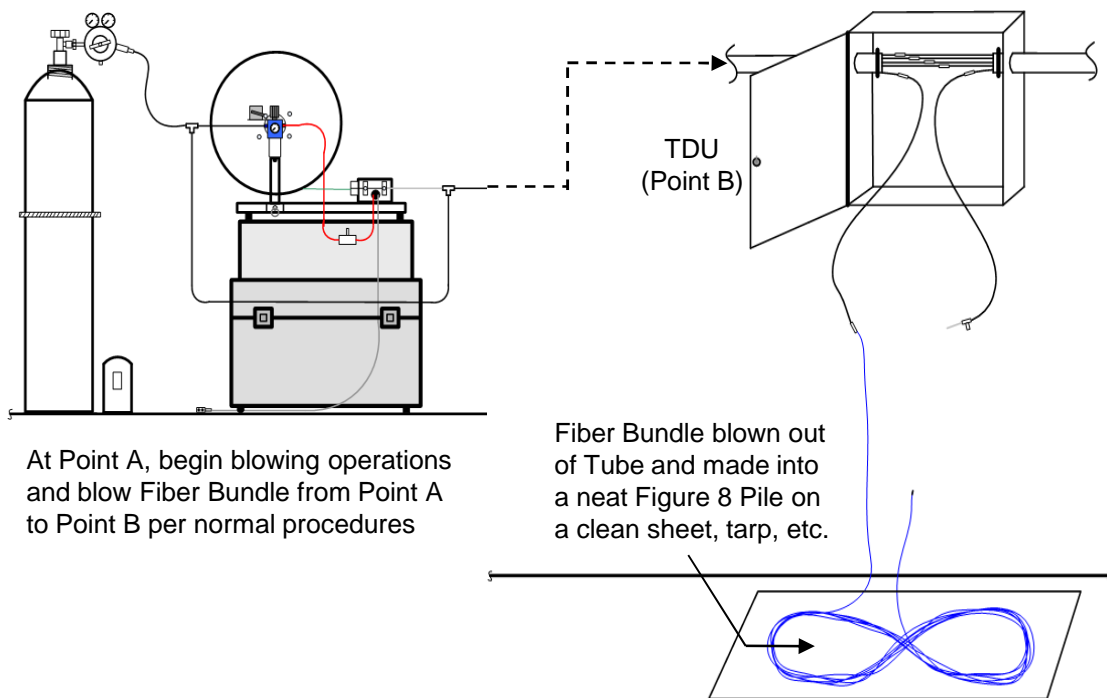

Figure 6
8.1 When fiber bundle reaches Point B TDU, Installer informs Blowing Head Operator who continues to install fiber bundle. **See Fig. 6.**